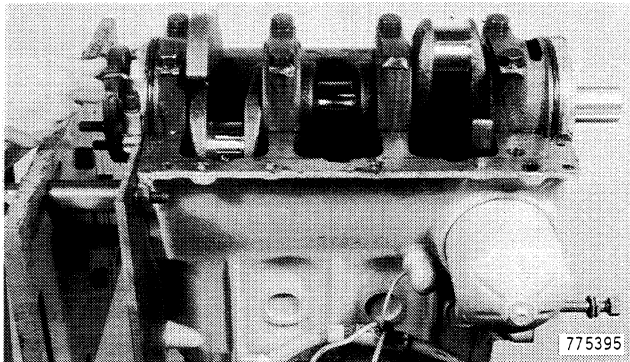

Figure 43
1. Remove the Allen head cap screws from the seal retainer plate, Figure 43.